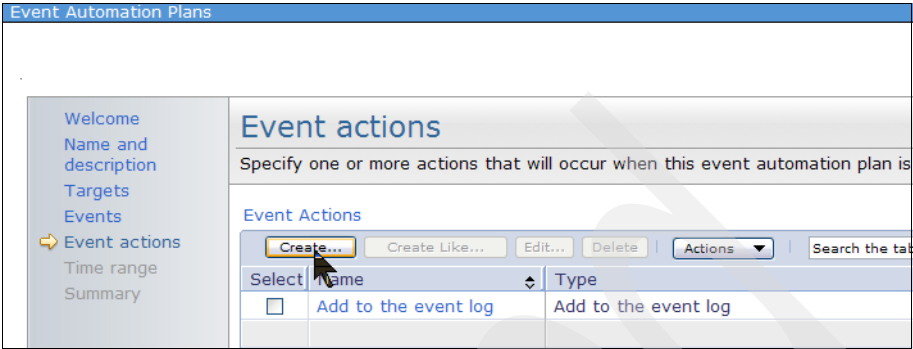

Figure 6-88 Creating an event automation plan - 8
9. A display similar to that shown in Figure 6-88 opens. Click **Create** to create an event action.